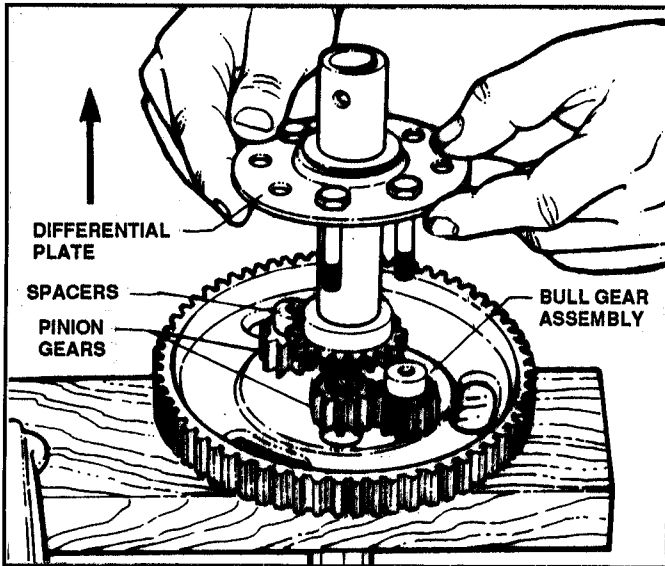

FIGURE 4.25
24. Remove the Thrust Washer and Differential Plate. See Figure 4.25.
22. Reinstall thrust washer over end of short axle (against Differential Plate). This washer serves as a bearing surface between the Bull Gear Assembly and the bearing in the L.H. Transmission Support. Refer to Figure 4.25.